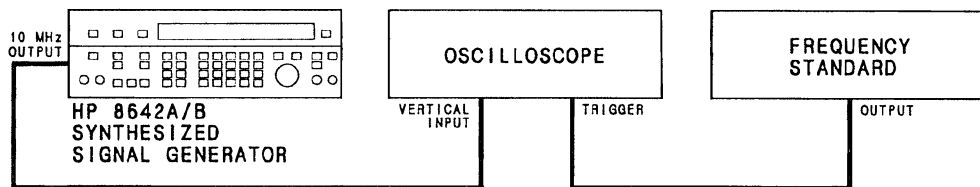

Figure 4-18. Internal Time Base Aging Rate Test Setup
2. Connect the instruments shown in Figure 4-18.